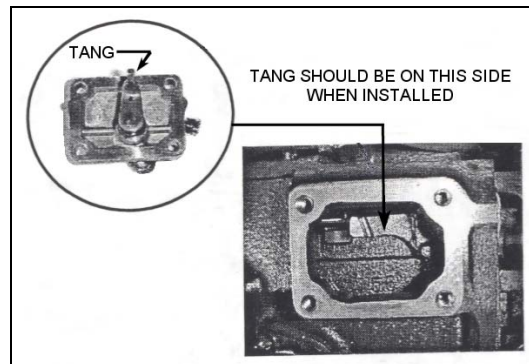

Figure 6. Injection Pump Cover Plate Assembly
1. Install the injection pump cover plate assembly onto the injection pump with the four screws and the new gasket. Make sure the tang on the back of the injection pump cover plate is installed as shown in **Figure 6**.